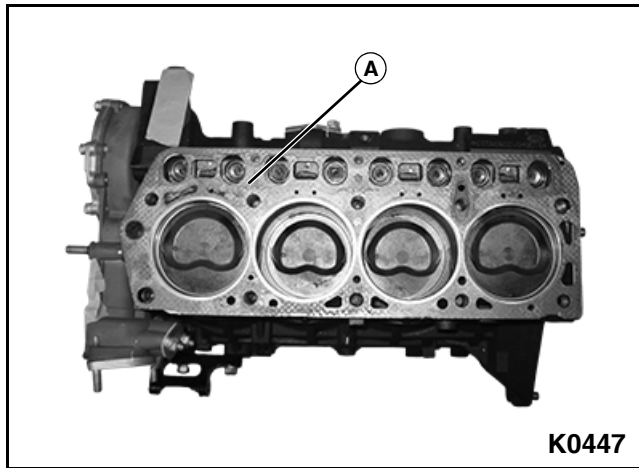

Figure 3-234
1. Use a scraper and remove any gasket material or sealant remaining on the cylinder block (A). **See Figure 3-234.**